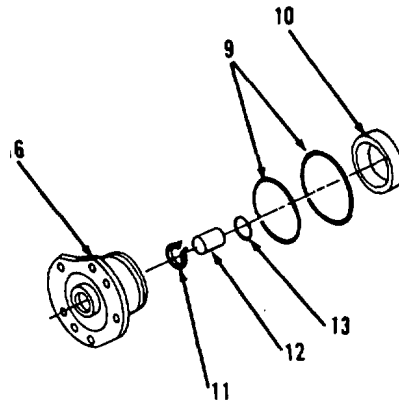
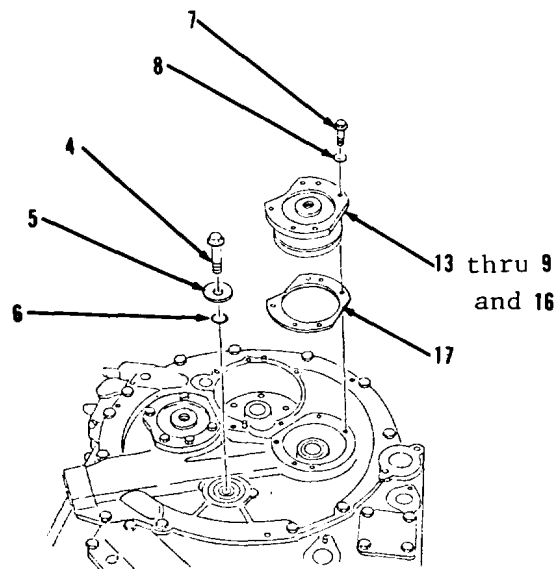

Figure 14-28.
Figure 14-29.
54. Install new seal ring (13), carrier ring (12) and retaining ring (11) in bearing cage (16, Figure 14-28).
55. Using dry ice or freezer, lower temperature of bearing cup (10) and install cup (10) in bearing cage (16).
56. Install two new preformed packings (9).
57. Repeat steps 54 thru 57 for remaining items 13 thru 9 and 16 as an assembly (Figure 14-29).